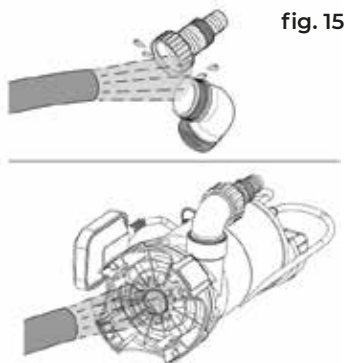

fig. 15
- Rinse the reducer (7) as well as the other connections using clear water. (see fig. 15)